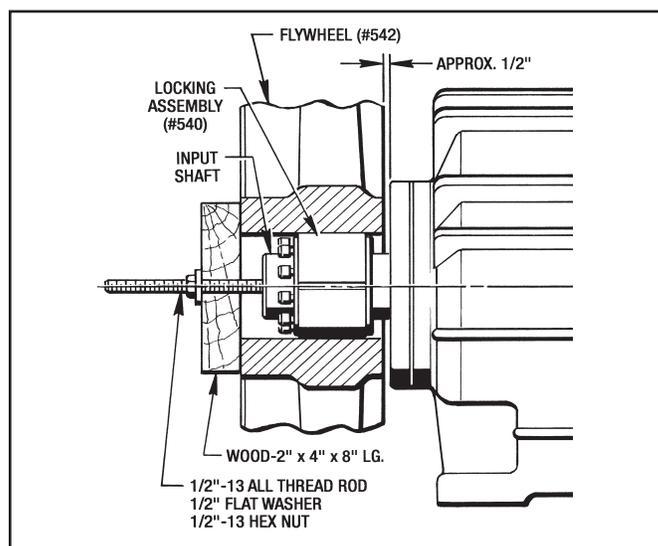

Figure 3.1 - Installing Flywheel on Input Shaft
6. Place the 2x4, 1/2" Flat Washer, and a 1/2"-13 Nut onto the threaded rod and tighten the hex nut so it pushes the Flywheel onto the input shaft until it is approx. 1/8" from the Fan Shroud (#24) or 1/2" from the Bearing Retainer (#7) (See Figure 3.1)